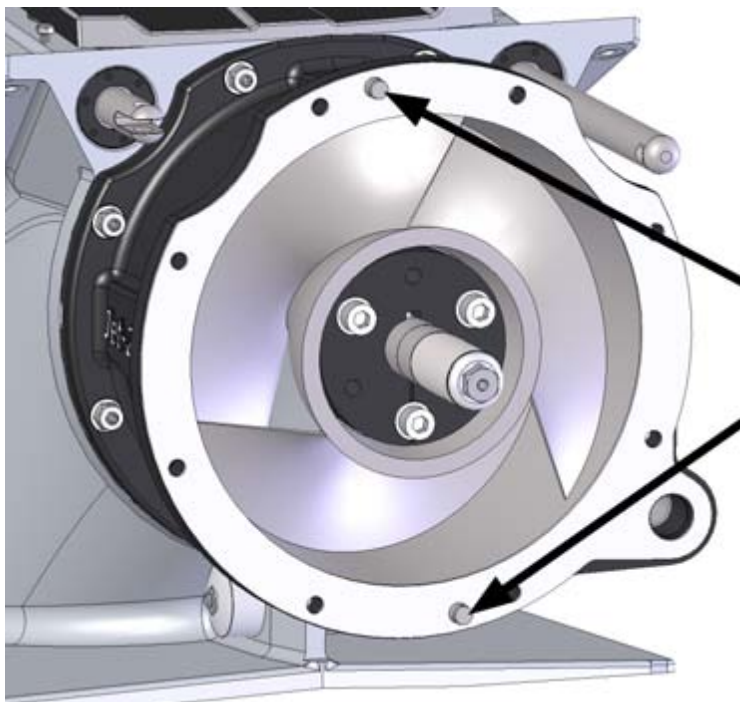

Figure 97. Installing the stator
1. Ensure that the stator seal is undamaged and the dowel pins are in place either in the stator or the impeller tunnel (figure 97).